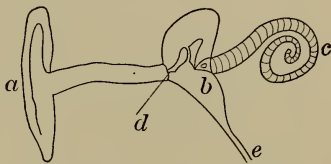

FIGURE 58.—DIAGRAM OF THE EAR.
**85. The Ear.** — The ear is the instrument with which we receive sound. The receiving is done in accordance with the principle of resonance. Figure 58 shows a section of the ear. The part (a) is that which we can see outside the head, and is called the *external ear*. From this a tube leads into the *middle ear* (b). Over the end of this tube is stretched a membrane (d) called the *ear-drum*. In the middle ear, attached to the ear-drum, is a series of three little bones. The last of these fits up against the end of a spiral tube called the *cochlea* or *inner ear* (c).